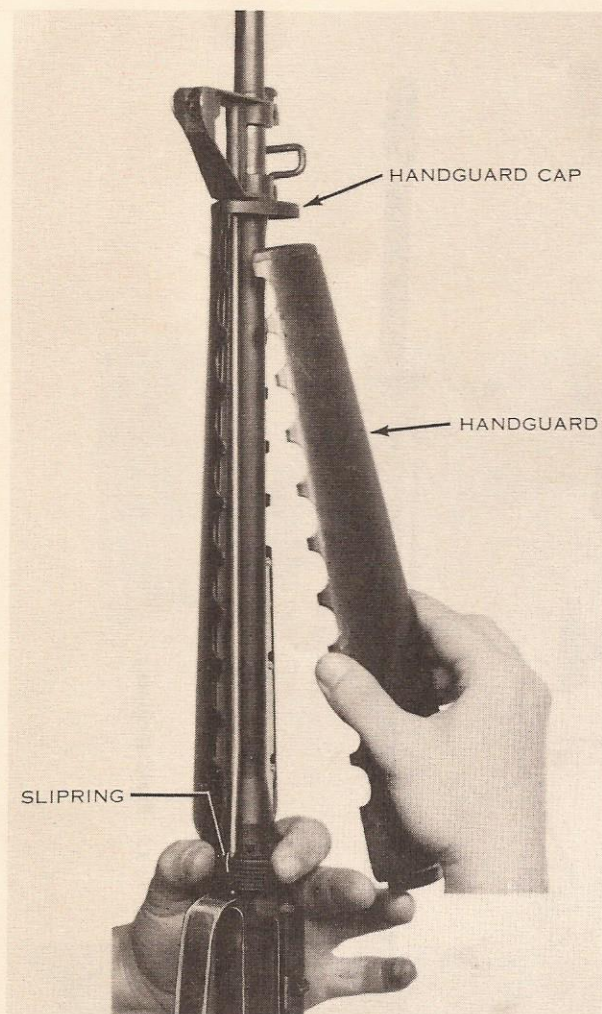

Figure 14. Removing the handguards.
f. The last parts to be removed are the handguards. Place the upper receiver on the table with the muzzle up. Pull down on the sliping until the lower lip of the handguard is clear; pull out and down on the handguard until the upper lip is free of the handguard cap (fig. 14). Repeat the same operation to remove the second handguard. Considerable pressure must be used to force the sliping down.